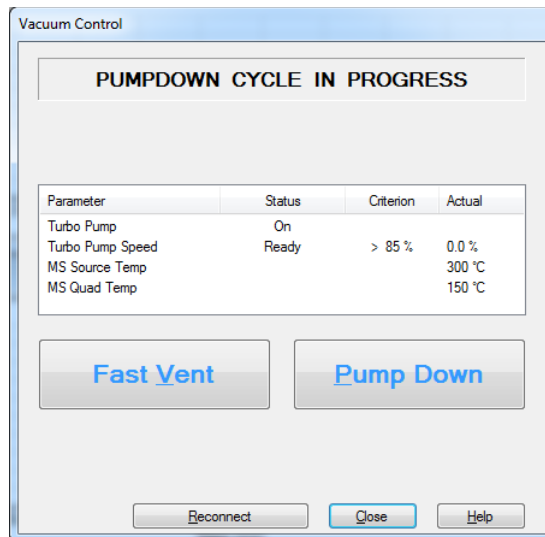

Figure 40 Vacuum control dialog
- 10 In the **Instrument Control** view, from the Instrument menu, select **MS Vacuum Control** to display the **Vacuum Control** dialog. (See Figure 40 on page 118.)